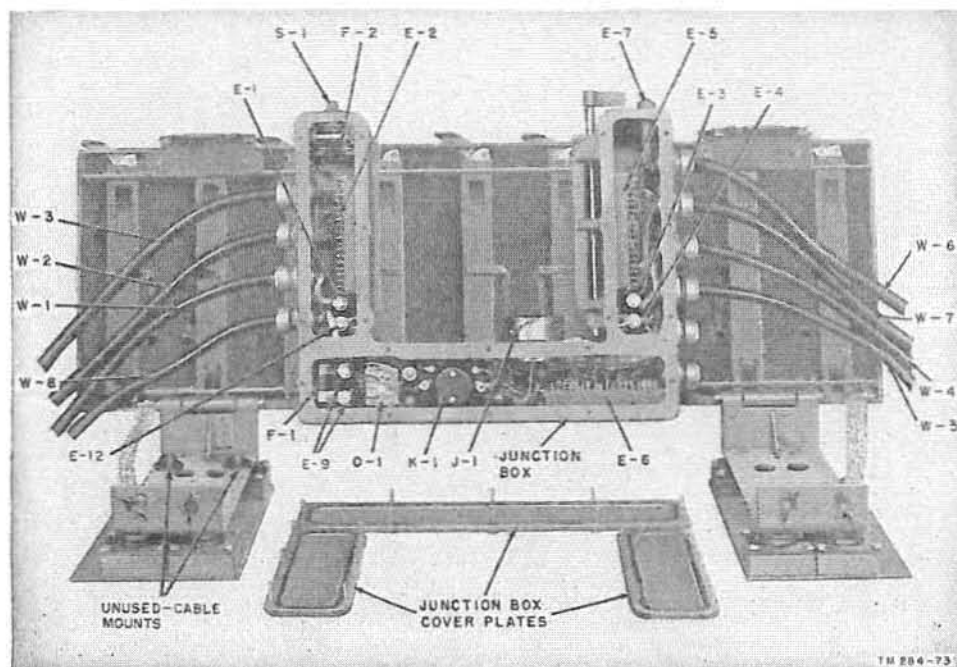
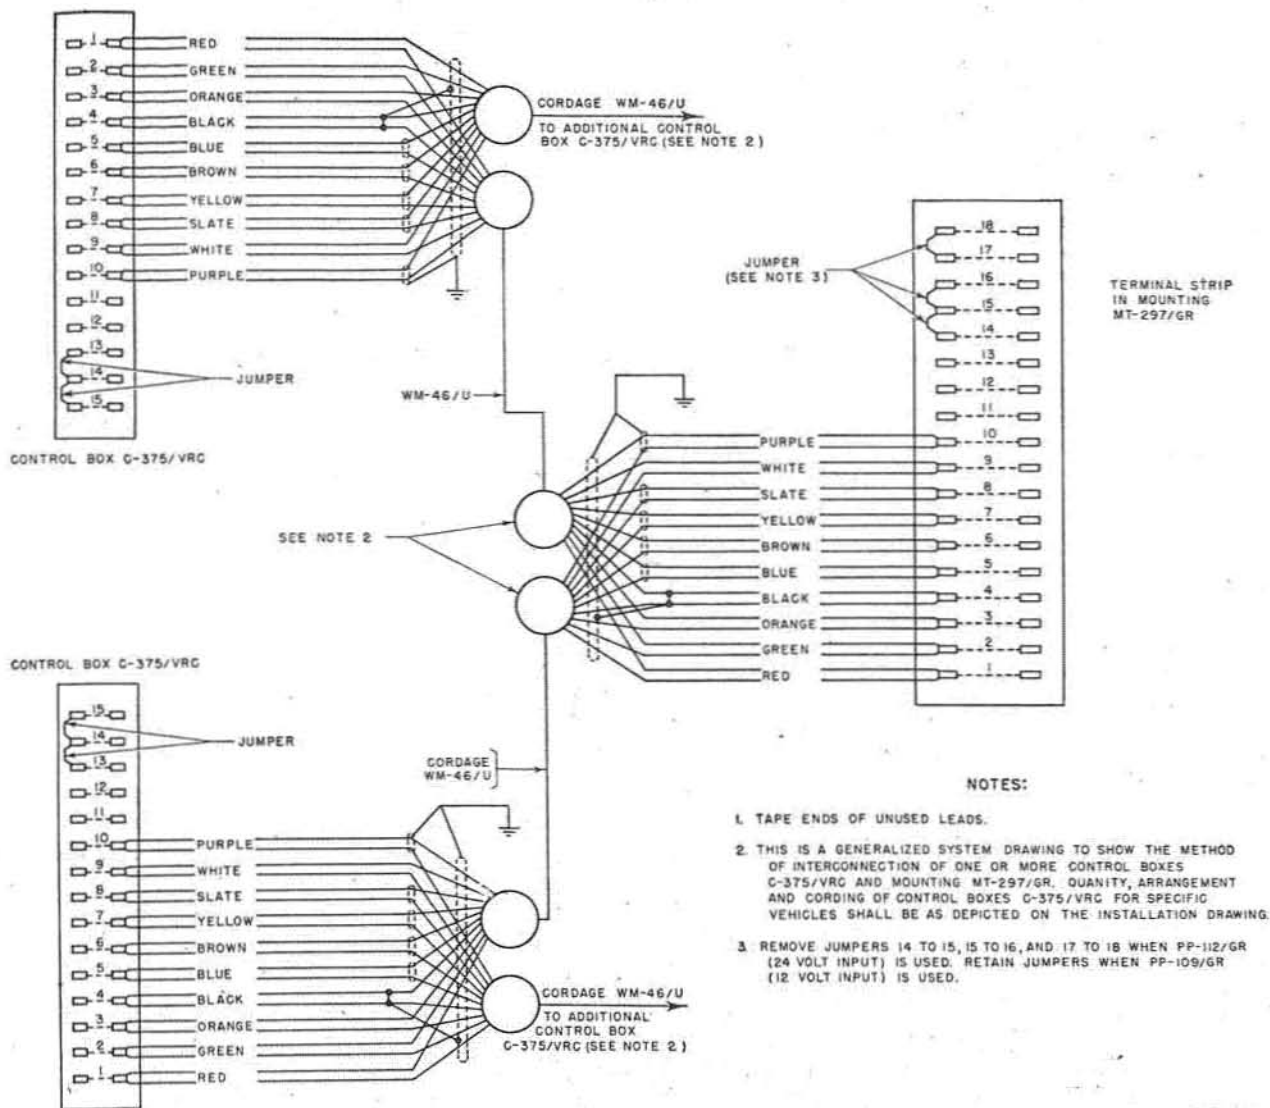

Figure 20. Mounting MT-297/GR, open view.
Figure 22. Interconnection of Mounting MT-297/GR and Control Box C-375/VRC.
c. Loosen the four wing-nut fasteners which hold the mounting table firm against the shock mounts. Swing the mounting table back on its hinges to make the junction box available. Remove the three cover plates from the junction box (fig. 20).
f. Loosen the bondnut on the cable clamp at one of the unused cable entries on the right-hand side of the junction box (fig. 20). Remove the nut, metal ring, and rubber washer from the cable clamp and slip them over the prepared end of the cable in reverse order (nut, ring, and washer). (The rubber plug which will be found in the cable entry is for waterproofing an unused entry; it will not be required in the final assembly.)
g. Insert the prepared end of the cable through the cable entry and solder the individual conductors to terminals of terminal board E-6 in the mounting (fig. 20); observe the color coding indicated on figure 22. The cable should be inserted until the outer insulation protrudes on the inside of the junction box. Sufficient slack should be allowed for all terminal connections.
nectors, E-1, E-3, E-4, E-9, and E-12 (fig. 20). Cable compression can cause these connectors to become loose over a period of time.
k. In Radio Sets AN/GRC-4, -6, and -8, which do not use an auxiliary receiver, fasten the two receiver cables (W-1 and W-2 on fig. 20) to the unused cable mounts (fig. 73).
o. Connect the battery cable (W-8 on fig. 20) in accordance with instructions furnished with the installation unit. Generally, the cable will connect to a vehicular junction box rather than
c. Solder the prepared conductors to terminals of terminal board E-2 in the control box, observing the color coding shown on figure 22.